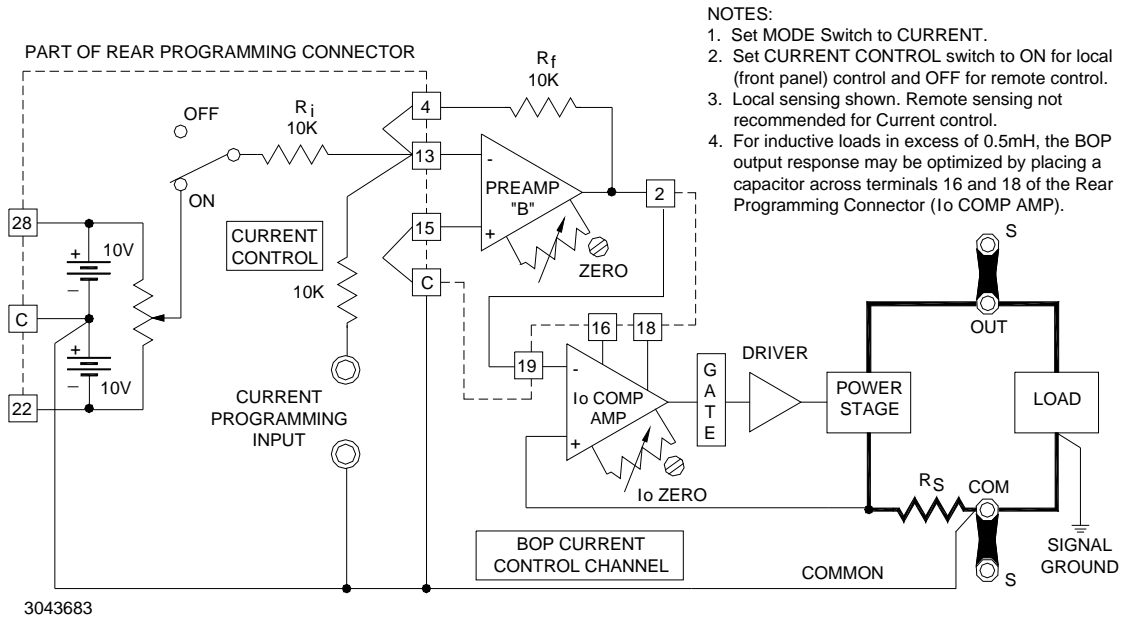

FIGURE 3-4. BOP CURRENT CONTROL CHANNEL (LOCAL CONTROL, LOCAL SENSING)
- Current Control Channel: see Figure 3-4 and PAR. 3.3.3 for local control.
The BOP may be used as a stabilized d-c source of positive or negative current, with output voltage limiting (for either polarity), pre-selected for the application at hand. Figure 3-4 illustrates the current control circuit configured for local (front panel) control using local sensing.